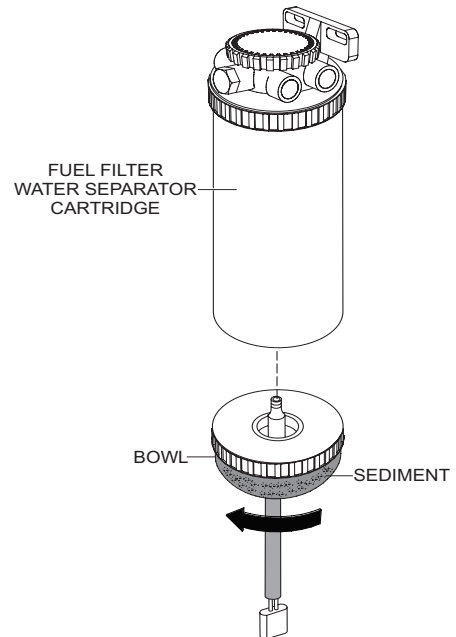

**Figure 66. Fuel Filter Cartridge Replacement**
1. Use a filter wrench to remove the fuel filter cup (Figure 66) from the fuel filter head.